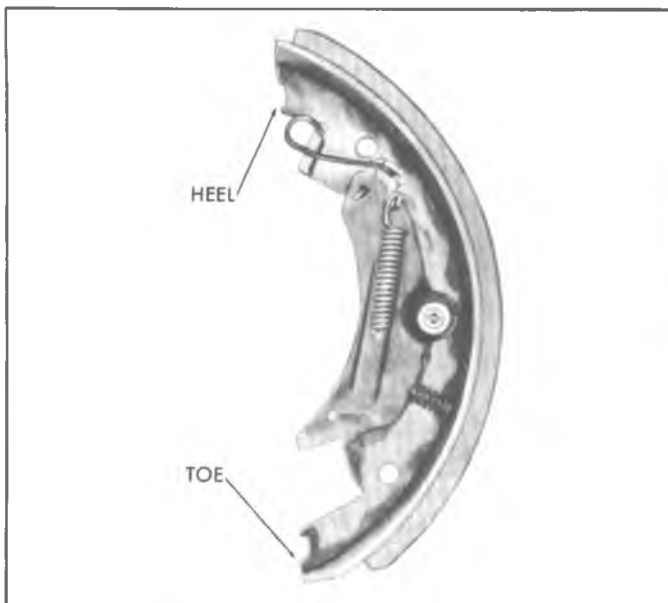

Fig. 78--Brake Shoe and Self Adjuster Assembly
**NOTE:** Make sure the toe of the shoe is against the adjusting screw (fig. 78).